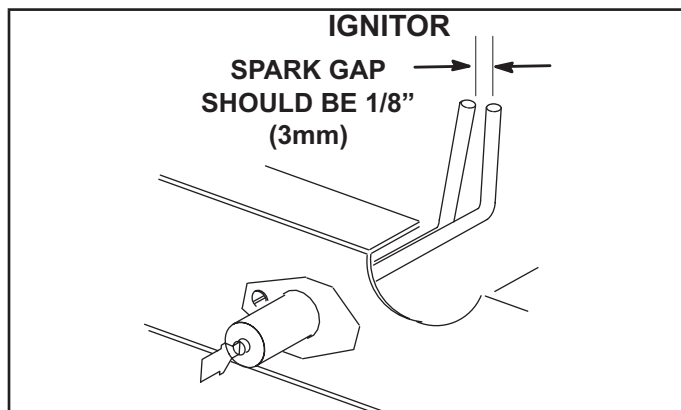

**FIGURE 33**
- 5 - Locate the ignitor under the right burner. Check ignitor spark gap with appropriately sized twist drills or feeler gauges. See FIGURE 33.